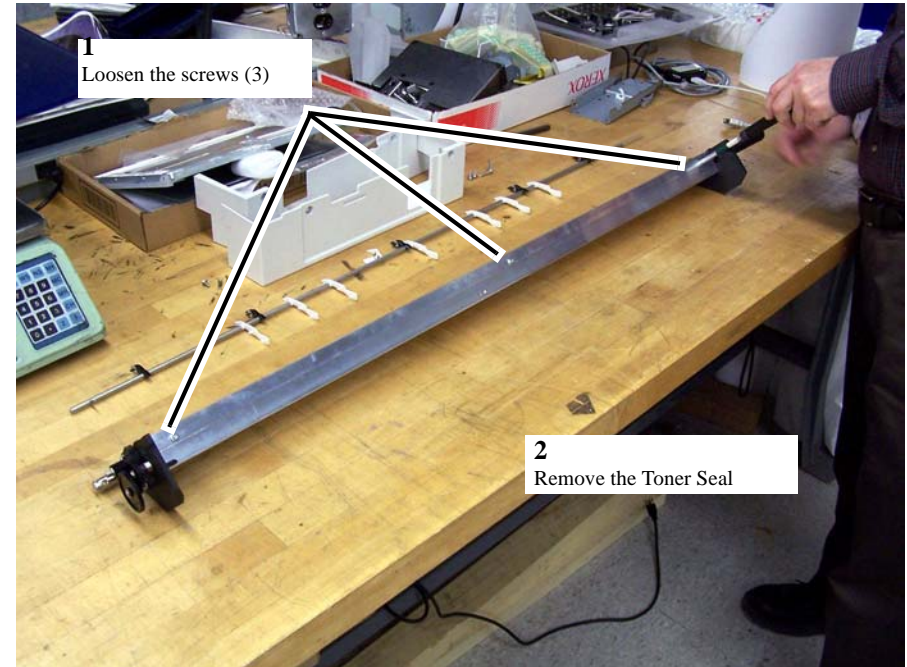

Figure 1 Removing the Toner Seal
6. Remove the Toner Seal Assembly (Figure 1).
- a. Loosen the screws (3)